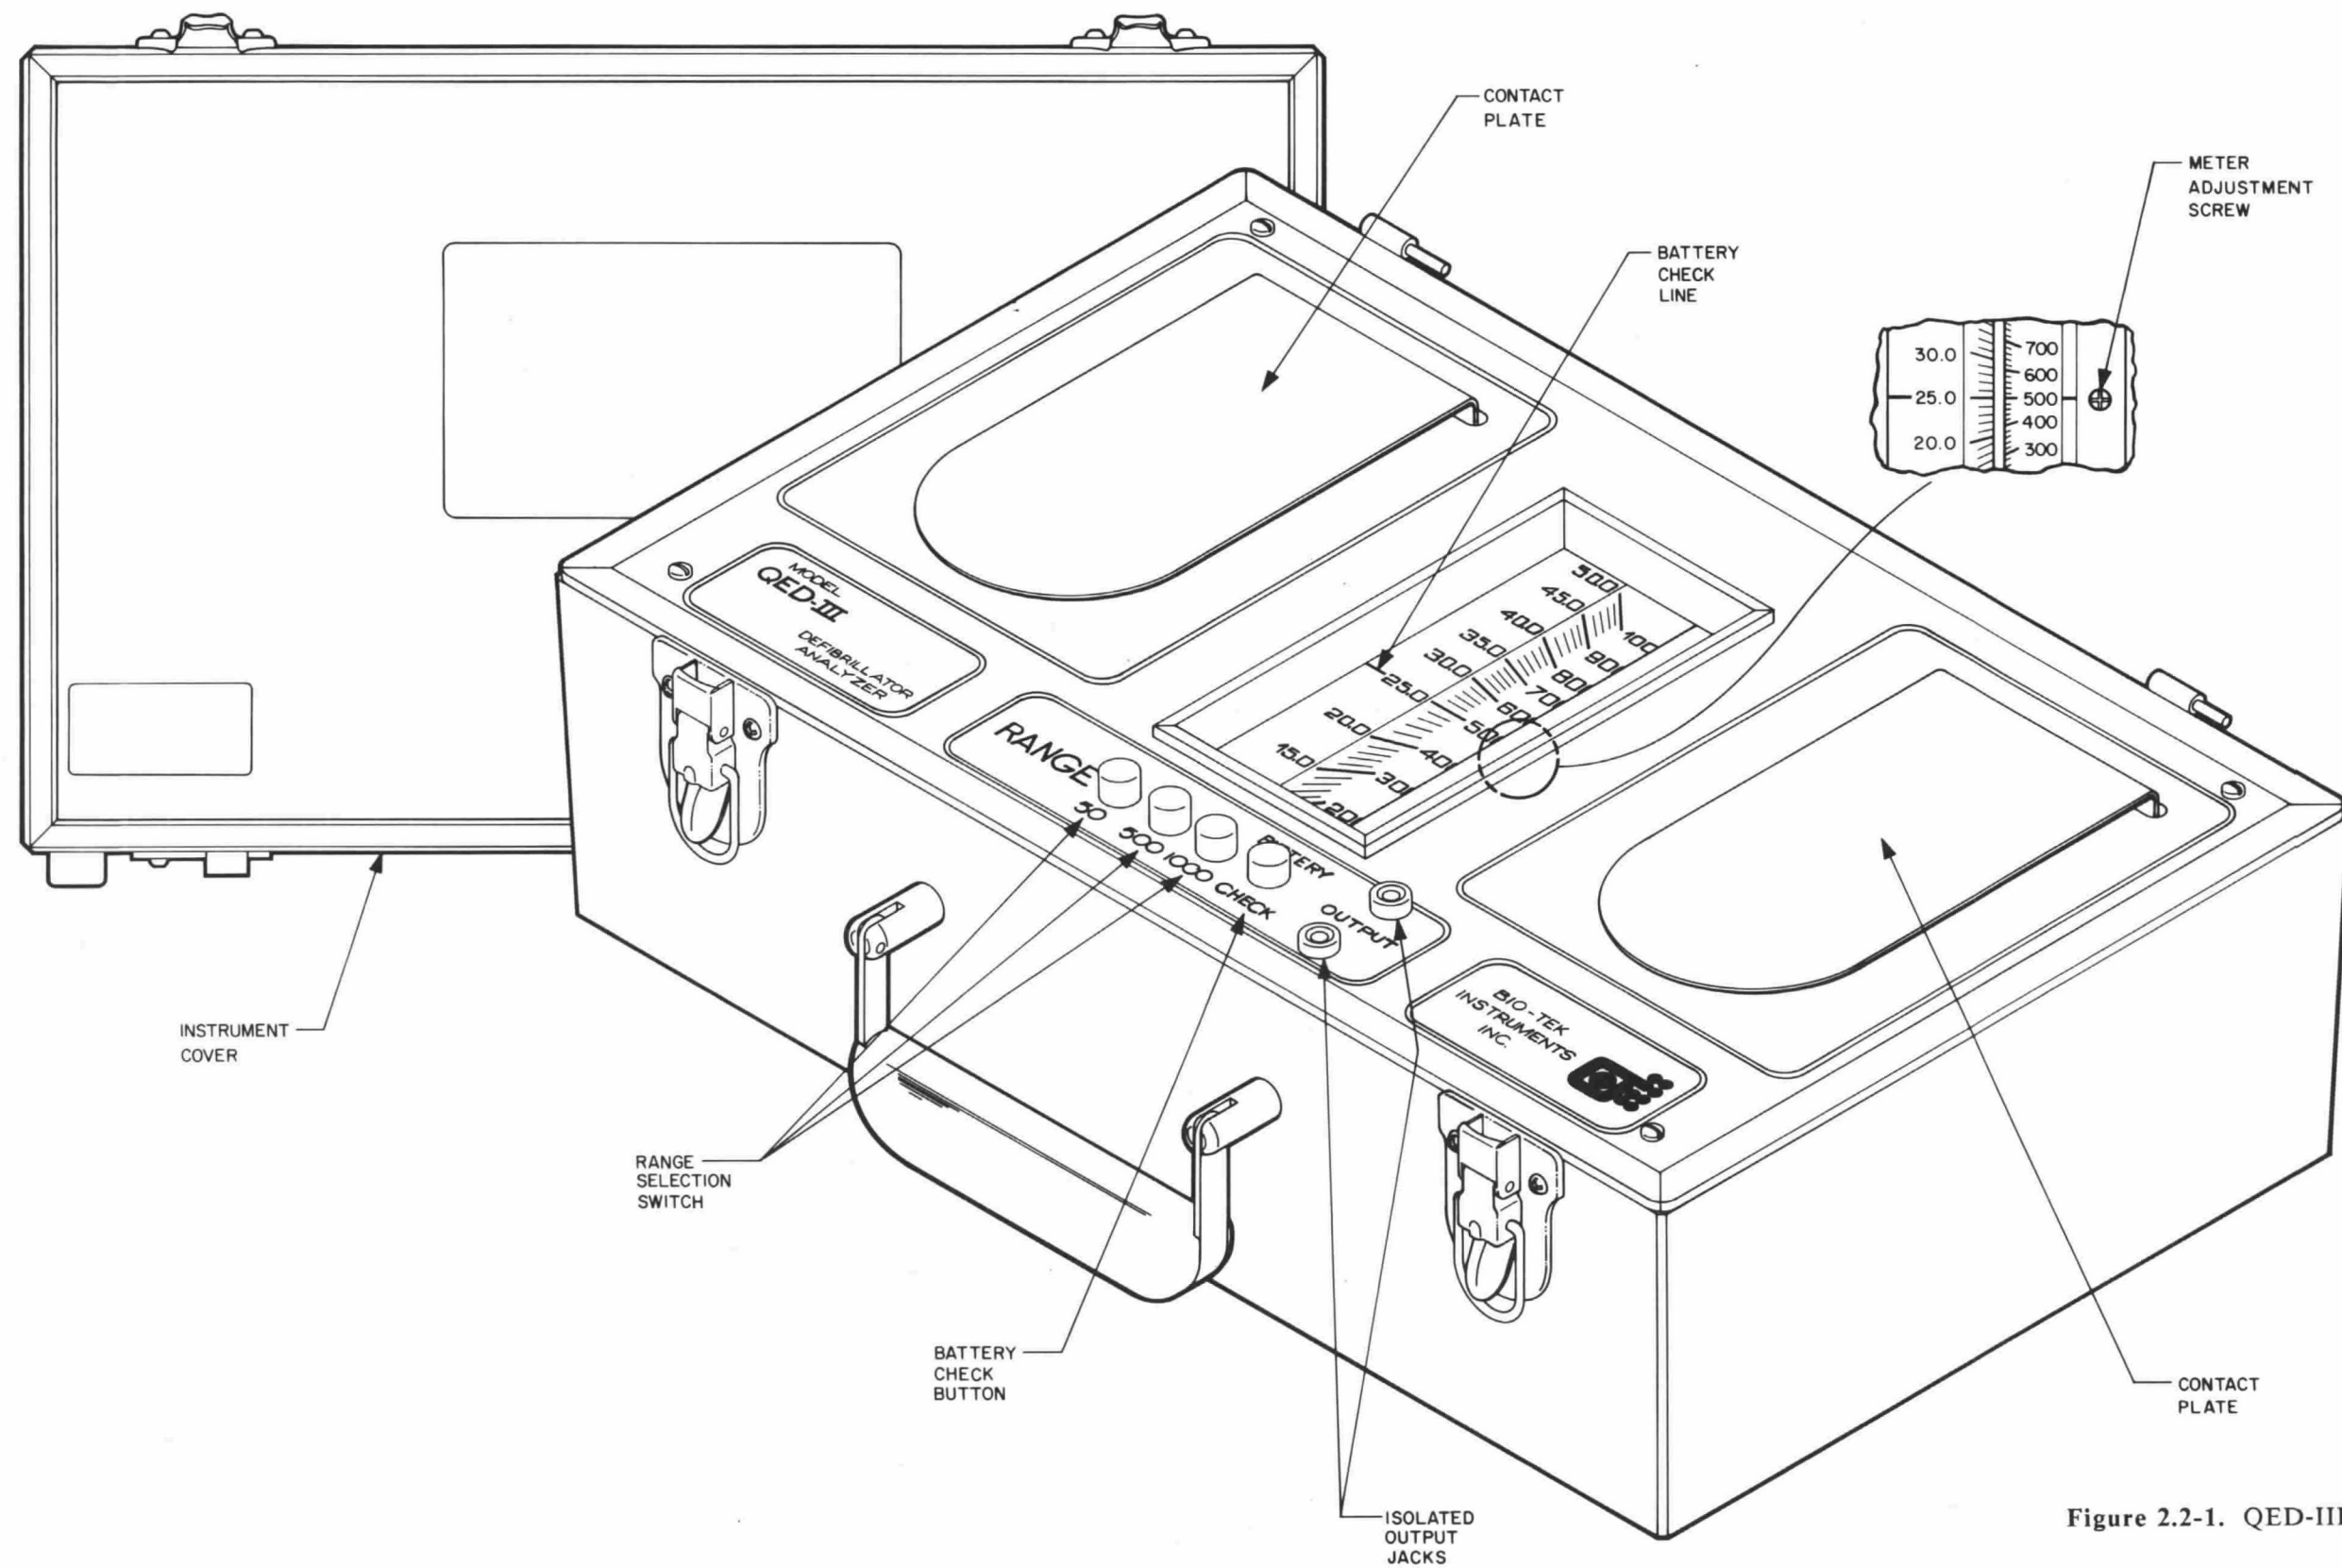

Figure 2.2-1. QED-III isometric view
The meter face of the QED-III is divided into three scales as illustrated in Figure 2.2-1. The scales are as follows:
1. Push the red battery check button located below the QED-III meter (see Figure 2.2.1).